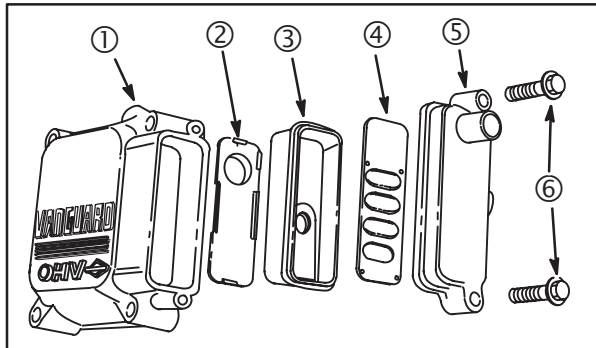

Fig. 15
1. Remove two screws (6) and breather cover (5), **Fig. 15**.
2. Lift off the outer baffle (4).
3. Remove the reed valve assembly (3) and O-ring.
4. Remove the inner baffle (2) from the valve cover (1).